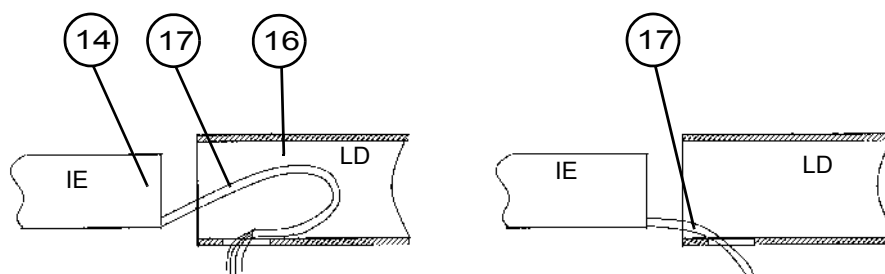

Figure 2
- Free the slings (13) after noting the length of the free threaded part.
- Put the intermediary element (14) + head element (15) assembly into slings.
- Remove completely using lift(s), the intermediary element (14) + head element (15) assembly of the large drum (16) completely using lift(s). Stop the movement before the cable chain (17) unwinds completely (Figure 2).